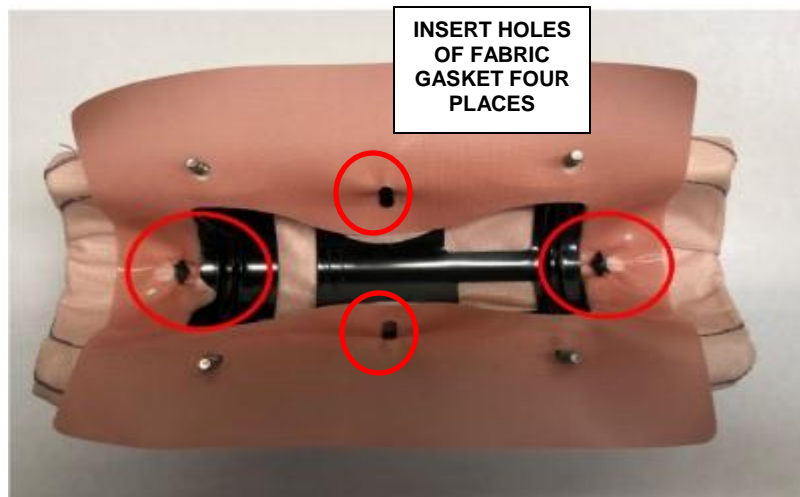

Figure 133 - Fabric Gasket
- h. With the help of a trim tool insert the holes of fabric gasket, four places (Figure 133).